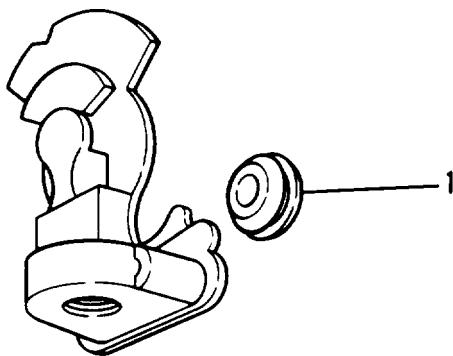

Figure 3-5. Gladhand
a. Use a soft cloth to remove any buildup of grease and dirt (figure 3-5).
b. Use a soft cloth and soap and water to thoroughly clean gladhand packing (1, figure 3-5).